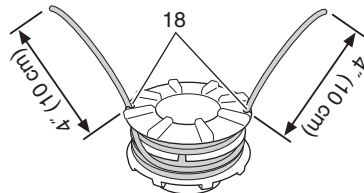

Fig. 23
- (4) Push each line into the stopper holes (18), leaving the loose ends approx. 4" (10 cm) in length. (Fig. 23)